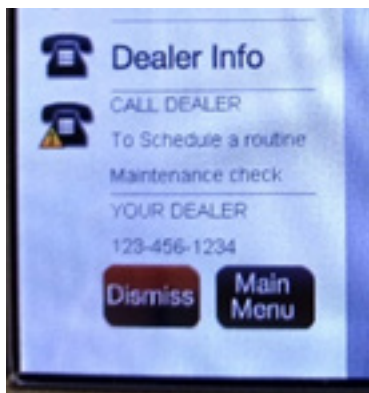

Figure 1. Install Batteries & Child Safety
2. Remove the battery cover from the back of the IFT-RC400 and install the four new AAA batteries in the proper orientation marked in the battery cavity. Ensure the child lock switch adjacent to the battery cavity is in the UNLOCKED position. See Figure 1.